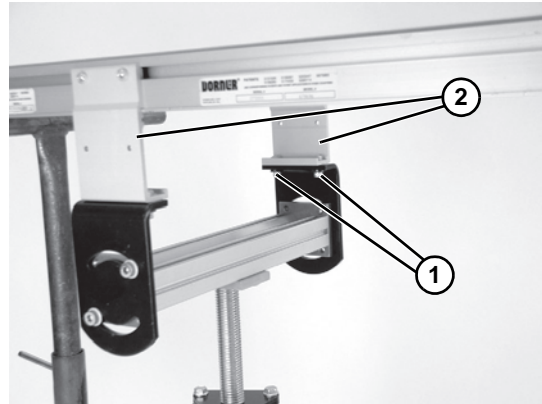

Figure 18
3. Remove conveyor bracket hardware (Figure 18, item 1) from both conveyor supports (Figure 18, item 2).